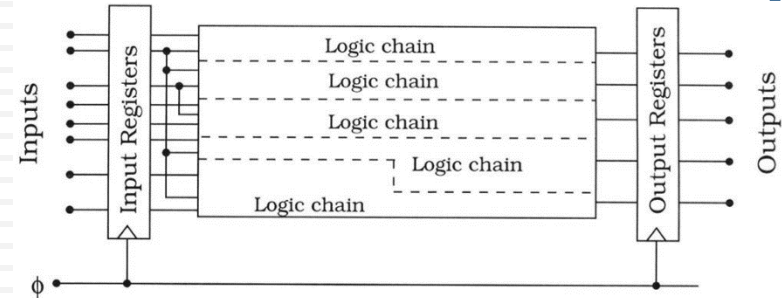

Figure 15.28 Logic chains in a clocked system
- Pipelined systems are designed to increase the overall throughput of a set of sequential input states by dividing the cascade into small visualization of the problem (Figure 15.28)